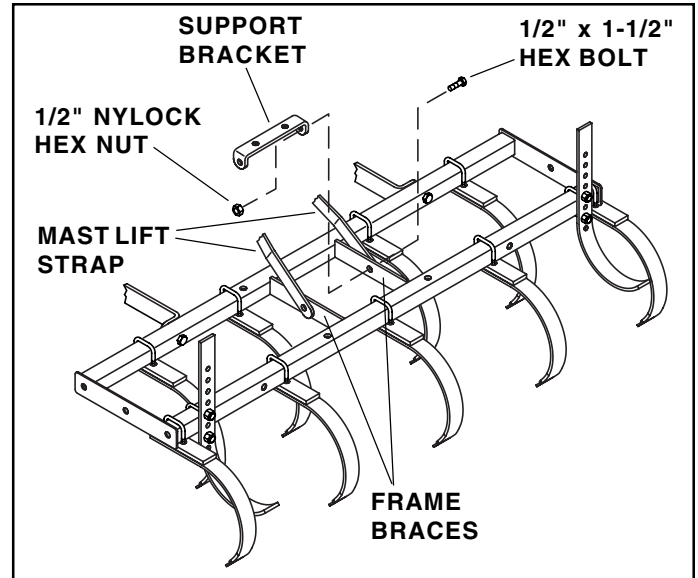

FIGURE 6
- Attach the lower end of each mast lift strap to the outside of the welded frame braces and attach the support bracket to the inside of the frame braces. Use two 1/2" x 1-1/2" hex bolts and two 1/2" Nylock hex nuts. **Do not tighten yet.** See figure 6.